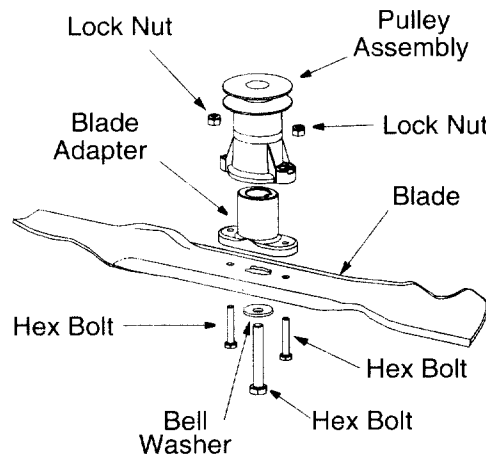

FIGURE 10
- Remove the bolt and bell washer which hold the blade-pulley assembly to the engine crankshaft. See Figure 10. Remove the assembly from the crankshaft.
- Install the blade adapter on the pulley with the “star” away from the pulley. See Figure 10.